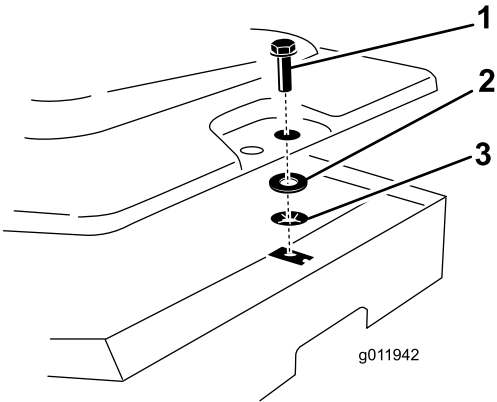

Figure 8
- 2. Install the existing bolt into the dedicated hole in the belt cover. Install the thrust washer and push nut from underneath to the existing bolt to retain it to the belt cover as shown in Figure 8.